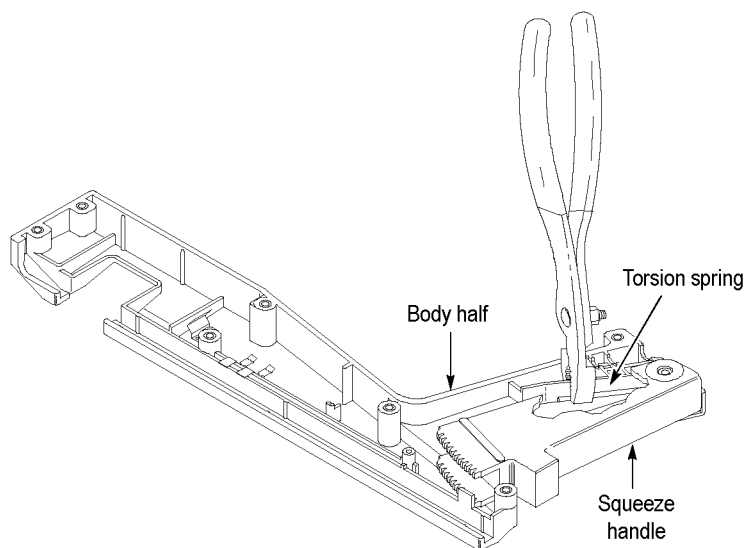
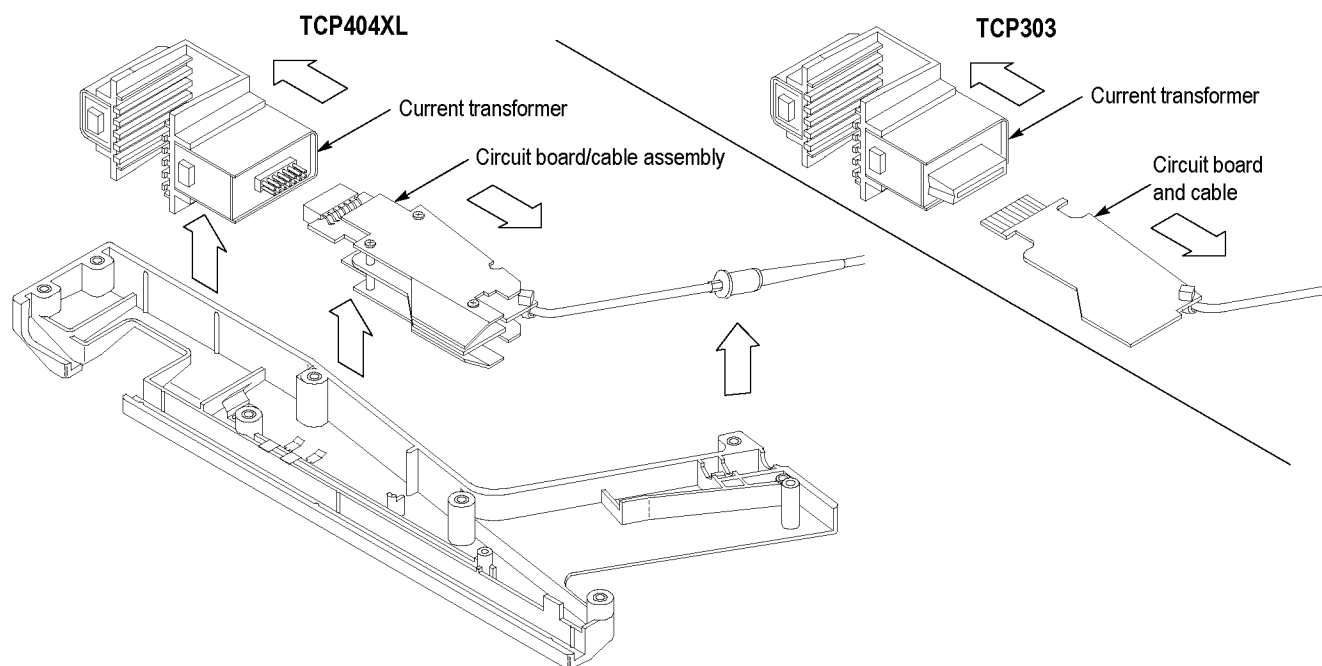

Figure 29: Removing the handle
Figure 30: Removing the current transformer
7. While maintaining a firm grip on the pliers, carefully lift the squeeze handle and gear out of the probe. (See Figure 29.) (See Figure 30 on page 72.)